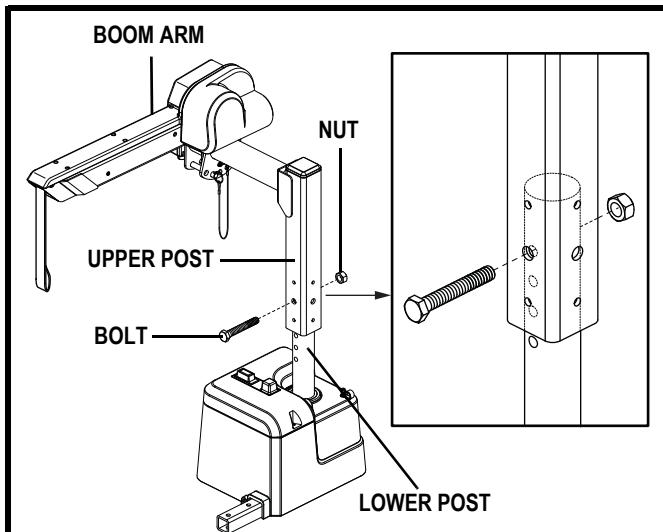

Figure 1. Upper Post Adjustment
The boom-arm can be adjusted for your convenience. See figure 1.
1. Remove the nut and bolt from the upper post. See figure 1.